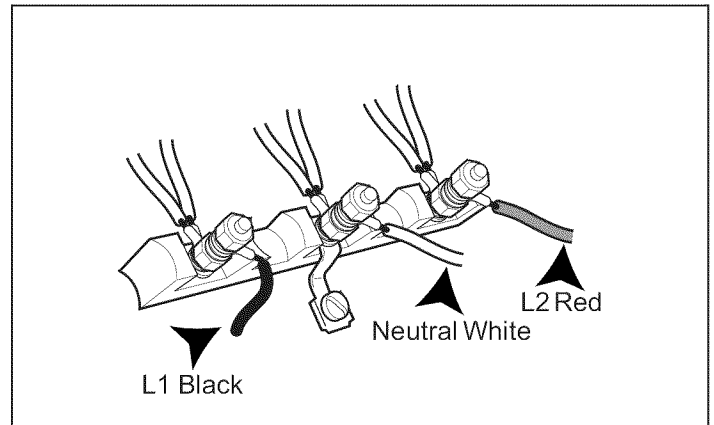

Figure 11: 3 Wire Connection
2. Secure the neutral, grounded wire of the supply circuit, to the center stud of the terminal block with nut. (See Figure 11).